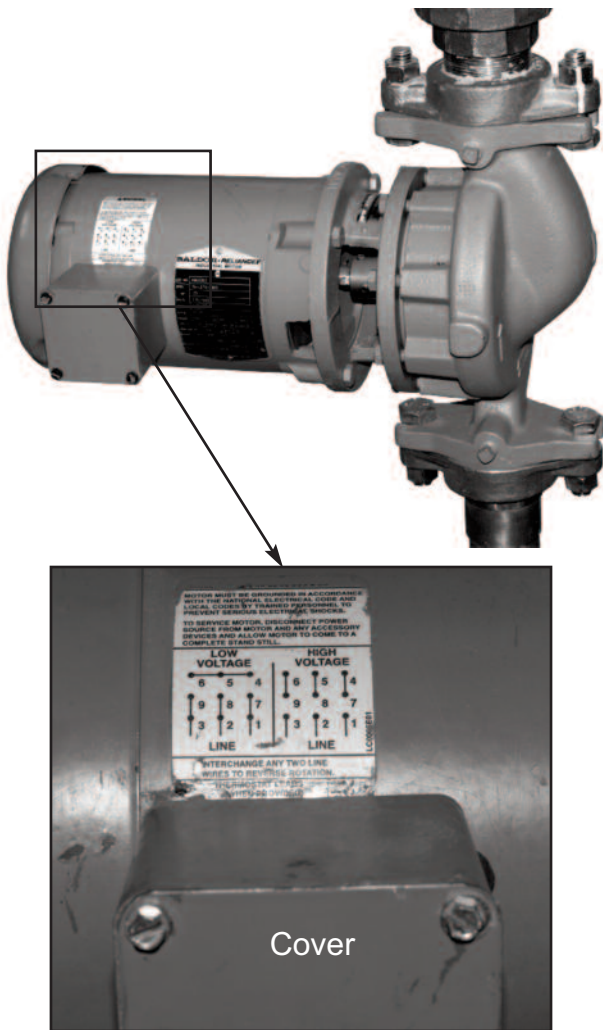

Fig. 32: Pump Wiring Decal and Junction Box
4. Locate the pump junction box and wiring decal shown in Fig. 32.
5. Remove the pump junction box cover shown in Fig. 32 and locate the 9 wires inside.